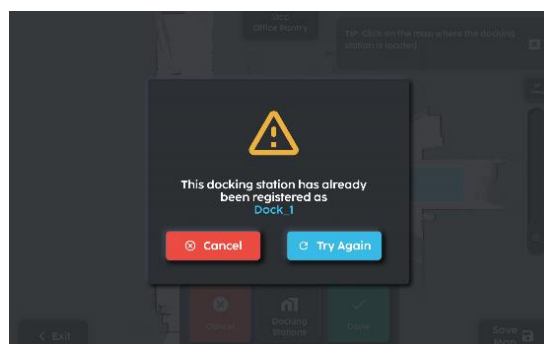

Fig 10
11. If docking station has been registered, select cancel and go to the 'POST REGISTRATION' section (Fig 10).